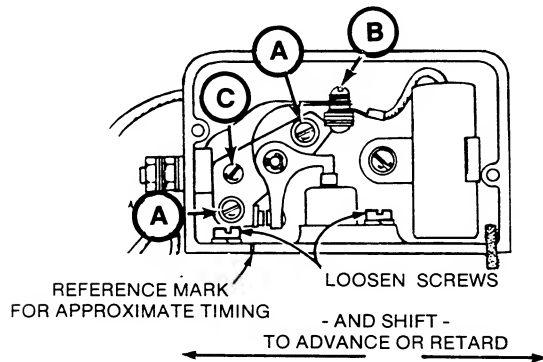

FIGURE 8. SETTING POINT GAP
3. Remove two mounting screws (A) and pull point set out of box just far enough so screw (B) can be removed. See Figure 8. Replace points and condenser set. Do not completely tighten mounting screws (A).
4. Adjust point gap by rotating crankshaft clockwise (facing flywheel) by hand until the points are fully open. Set the point gap (using flat feeler gauge) at 0.020 inch (0.51 mm) by adjusting screw (C).